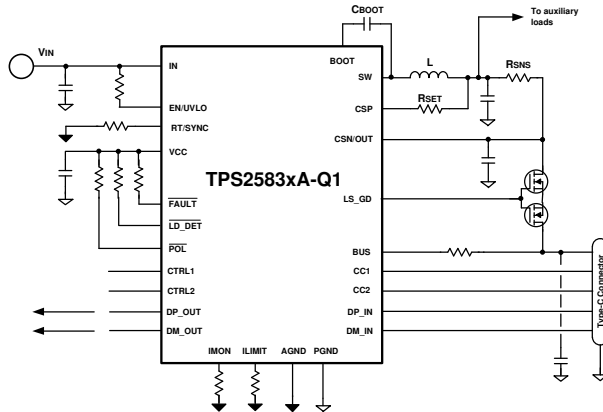

图 10-16. TPS2583xA-Q1 Current Limit With External MOSFET
- With external MOSFET 图 10-16:
3. Typical  $R_{ILIMIT}$  resistors value are listed in 图 10-16, given the condition  $R_{SNS} = 15 \text{ m}\Omega$  and  $R_{SET} = 300 \text{ }\Omega$ .
The TPS2583xA-Q1 has integrated NFET gate drivers and can support current limit with external NFET. Refer to 图 10-16.